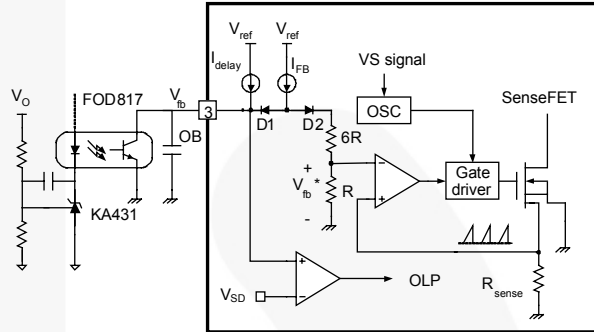

Figure 14. Valley Switching Pulse-Width Modulation (VS-PWM) Circuit
**2. Feedback Control:** This device employs current-mode control, as shown in Figure 14. An opto-coupler (such as the FOD817) and shunt regulator (such as the KA431) are typically used to implement the feedback network. Comparing the feedback voltage with the voltage across the  $R_{sense}$  resistor makes it possible to control the switching duty cycle. When the reference pin voltage of the shunt regulator exceeds the internal reference voltage of 2.5V, the opto-coupler LED current increases, pulling down the feedback voltage and reducing the drain current. This typically occurs when the input voltage is increased or the output load is decreased.
**2.1 Pulse-by-Pulse Current Limit:** Because current-mode control is employed, the peak current through the SenseFET is limited by the inverting input of PWM comparator ( $V_{FB}^*$ ), as shown in Figure 14. Assuming that the 225 $\mu$ A current source flows only through the internal resistor ( $6R + R = 12.6k\Omega$ ), the cathode voltage of diode D2 is about 2.8V. Since D1 is blocked when the feedback voltage ( $V_{FB}$ ) exceeds 2.8V, the maximum voltage of the cathode of D2 is clamped at this voltage, clamping  $V_{FB}^*$ . Therefore, the peak value of the current through the SenseFET is limited.